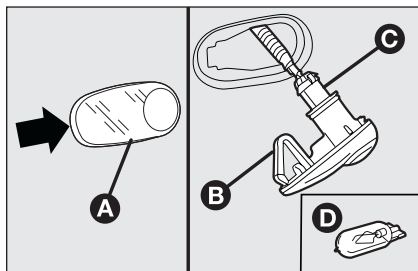

fig. 24
- push the transparent cover **A**-fig. 24 to compress the internal catch **B**, then remove the unit;